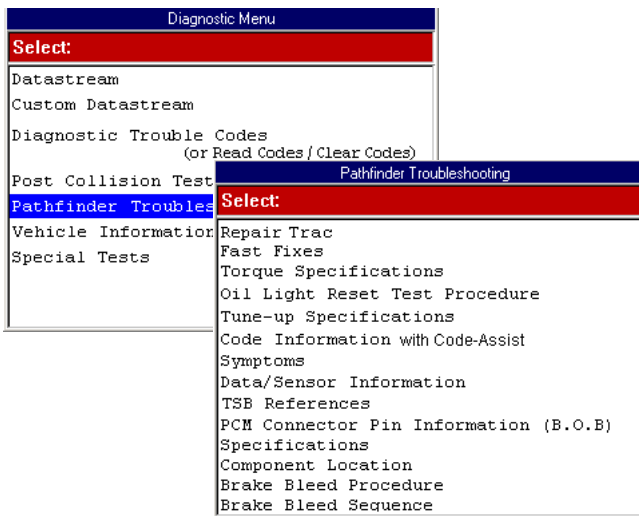

Figure 10.1: Diagnostic Menu Screen and Pathfinder Troubleshooting Screen
- 1 Follow the steps in Basic Procedure to display the Pathfinder Troubleshooting screen (see Figure 10.1).
- 1 Follow the steps in Basic Procedure on page 53 to display the Pathfinder Troubleshooting screen (see Figure 10.1).